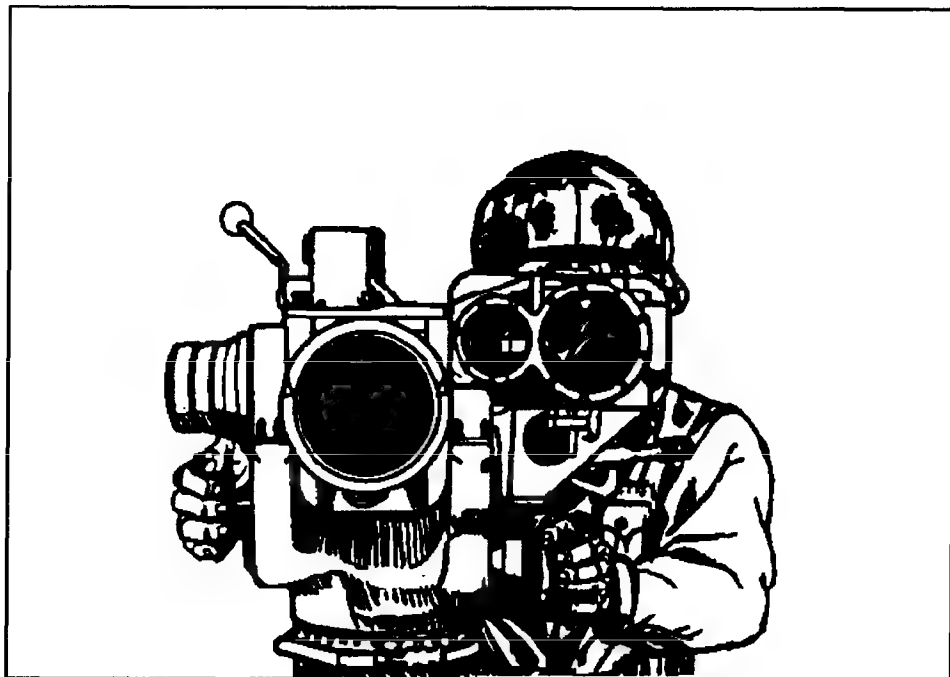

Figure 6-10. Control knobs.
a. Position the eye well into the rubber eyepiece and place both hands firmly on the control knobs (Figure 6-10). Place the body so there is no contact between the shoulder and the encased missile. The only contact with the launcher is with the hands and eye. Assume a firing position that is comfortable. An uncomfortable position causes muscle tension, which affects the ability to track smoothly.